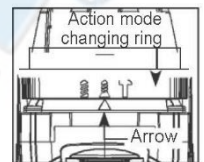

Fig. 14
1. Turn the action mode changing ring so that the arrow on the tool body points to the "⚙️" marking. (Fig. 14)